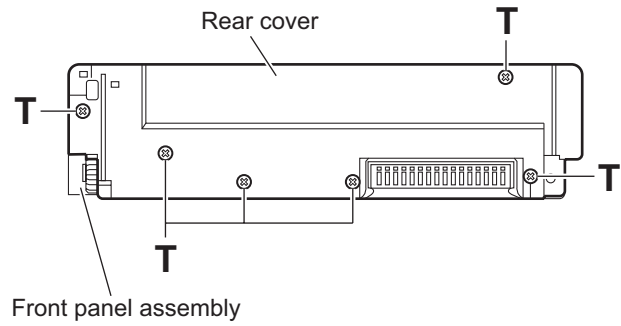

Fig.12
3.1.9 Removing the front board (See Figs. 12 to 14)
- (1) From the back side of the front panel assembly, remove the six screws **T** attaching the rear cover. (See Fig.12.)